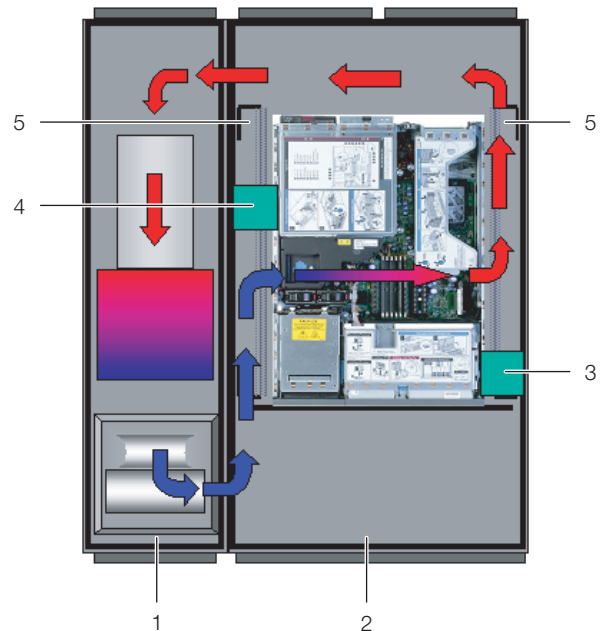

Fig. 20: Placement of foam strips for devices with sideways air throughput (top view) – LCP Rack
- If several devices which require sideways air throughput are included, cut out several pieces of the foam strip, as is appropriate, so that, ultimately, there is a cut-out in the foam to the left or right in the height of each such device in the server rack. Ensure that there are no gaps on the warm air side of the device (Fig. 20, item 3).
- Attach the foam strips to the cold air side of the devices facing backward (Fig. 20, item 4). Ensure that you attach the strips such that all fans built into the devices can draw air and that none of them are blocked.
The foam strips can be attached between the front and rear supports of the server rack along the entire depth of the devices with air throughput at the sides (Fig. 20, item 5).